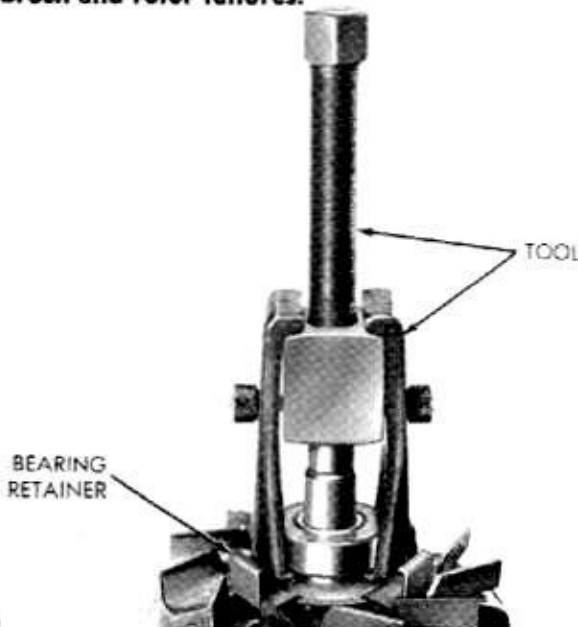
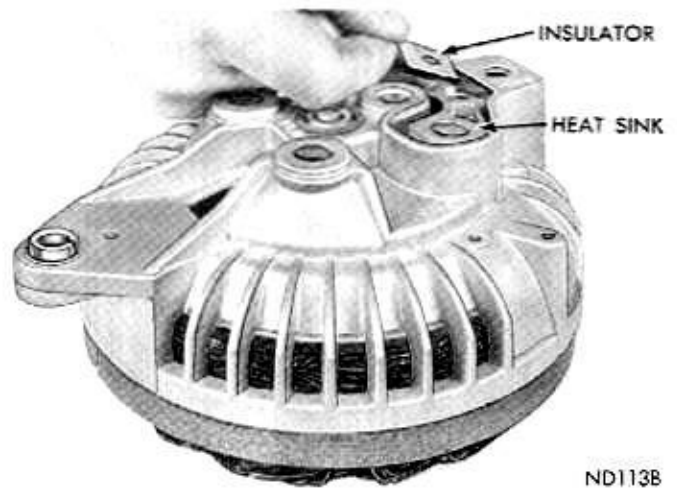

Fig. 19—Removing Bearing from Rotor Shaft
Fig. 20—Removing Heat Sink Insulator
(9) The drive end ball bearing is an interference fit with the rotor shaft. Remove bearing with Puller Tool C-4068, (Fig. 19).
(10) Remove output terminal nuts and washers and remove terminal screw and inside capacitor. **The heat sink is also held in place by the terminal screw.**
(11) Remove insulator (Fig. 20).
(10) The alternators have the capacitor mounted internally. Make sure heat sink insulator is in place (Fig. 20).
(11) Install output terminal screw and capacitor through heat sink and end shield.
(12) Install insulating washers, lockwashers and lock nuts.
(13) Make sure heat sink and insulator are in position then tighten lock nut.
(14) Position stator on rectifier end shield.
(15) Position rotor and end shield assembly on stator and rectifier end shield assembly. **Align** through bolt holes in the stator, rectifier end shield and drive end shield.
(16) Compress stator and both end shields by hand and install through bolts, washers and nuts. Tighten bolts evenly to 20-30 inch-pounds.
(17) Install field brushes in holder. Place one vertical and one horizontal holder in rectifier end shield.